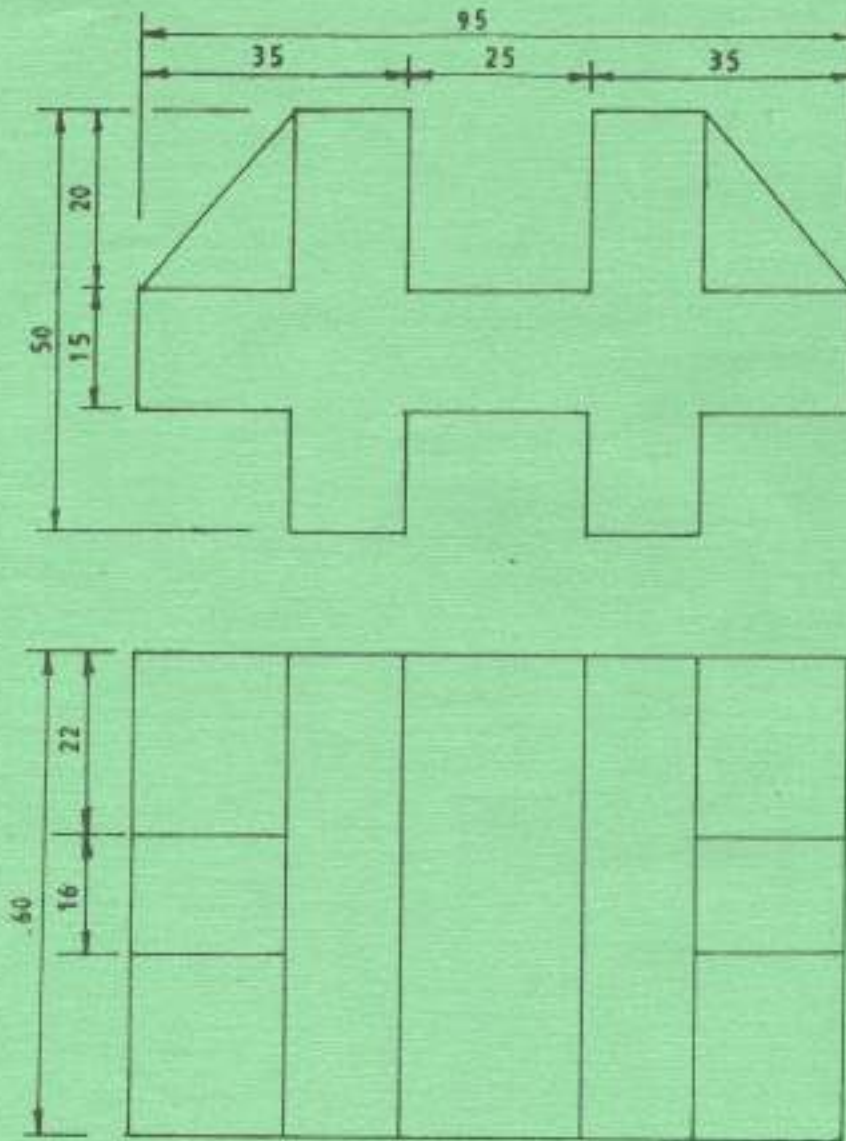

Fig 4
5. Figure 4 shows two views of a shaped block drawn in first angle projection. Draw full size the oblique projection of the block and include dimensions. (20 marks)